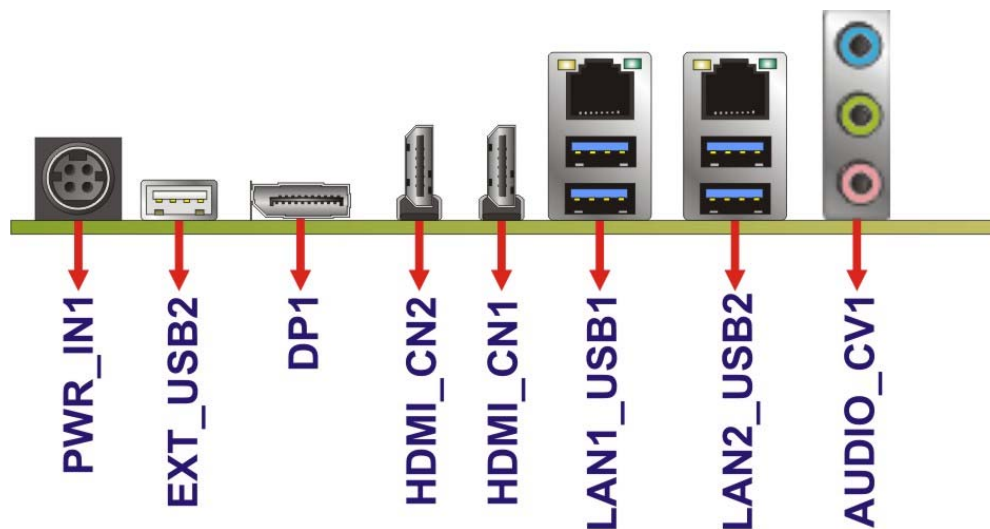

Figure 3-26: External Peripheral Interface Connector
Figure 3-26 shows the gKINO-DMF external peripheral interface connector (EPIC) panel.
CN Location: See **Figure 3-26**
- CN Location:** See **Figure 3-26**